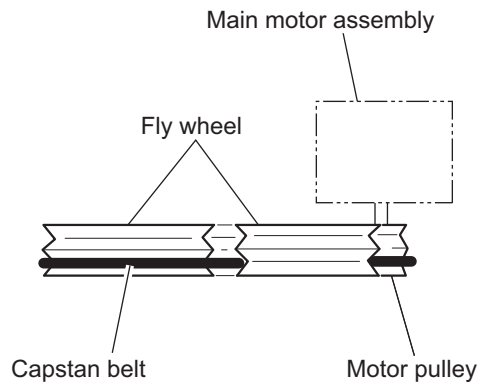

Fig.7
- (4) Remove the solders from the soldered sections **e** after attaching the card wire to the connector on the pickup. (See Figs.7 and 9.)